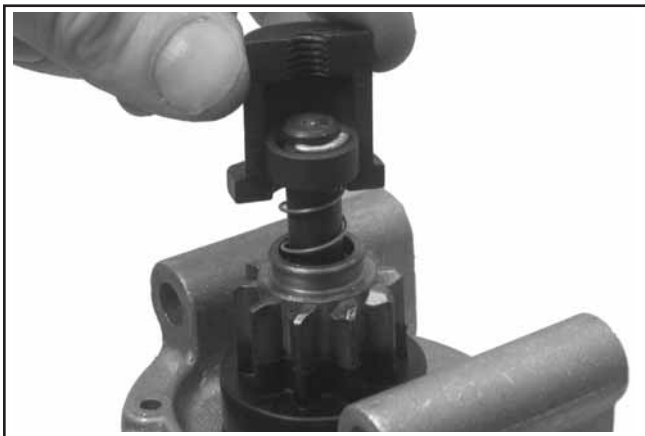

Figure 7-34. Assembling Larger Inner Half Around Spring Retainer.
5. Assemble the inner halves with the larger cavity around the spring retainer (see Figure 7-34). Slide the collar over them and thread the center screw in until resistance is felt.